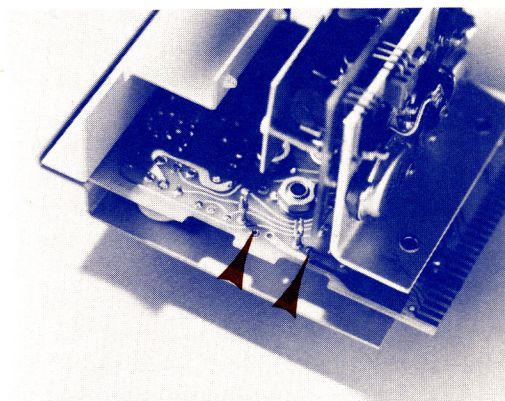

Figure 0-3. Installing compensating capacitor on regulator board. Note arrows.
- 3) Install compensating capacitor if required — If compensating capacitor is required by regulator to be tested, install between two points on regulator circuit board as marked. See Figure 0-3.